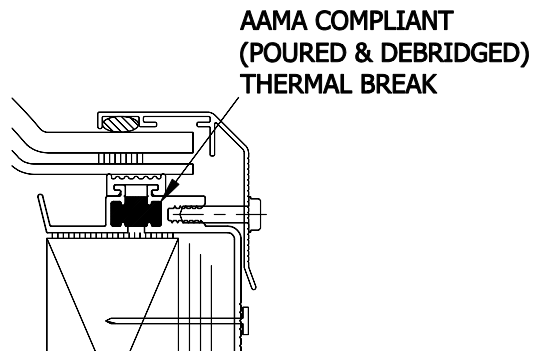

FIGURE 10.0
- If the skylight was properly designed, built, specified and purchased for the site's ASHRAE (climate conditions) condensation should not be an issue. Most skylights installed on buildings with heated and/or air conditioned interiors will be double glazed which in itself reduces the potential for condensation. Additionally, well designed skylights will utilize an AAMA compliant thermal break which completely separates the exterior skylight frame from the interior skylight frame (See Figure 10.0). Some skylight manufacturers utilize thermal barriers designs that are not AAMA compliant and usually identify their designs as "insulated thermal break" or "thermalized". These designs may not be as effective in preventing condensation.